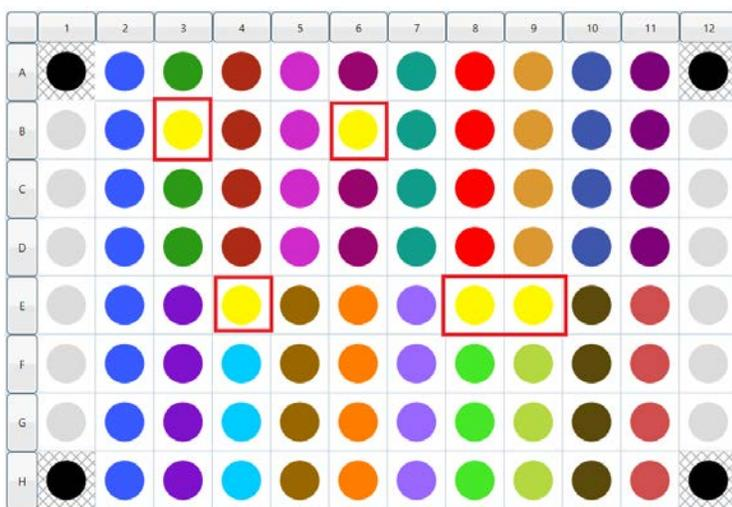

Figure 8 | Plate Map view in Wave. The wells with a red outline have been reassigned to the 'Outlier' group (denoted by the yellow group color).
- d. Click the wells on the Plate Map to assign to them to the 'Outlier' group. Below is an example of Outlier wells assigned to the Plate Map outlined in red (Figure 8).
Record Coordinates: After reviewing data but before modifying **Groups/Conditions** or **Plate Map**, write down the coordinates of the outliers on a piece of paper. Example: The yellow outlier well coordinates in Figure 8 above are: B3, B6, E4, E8, and E9.